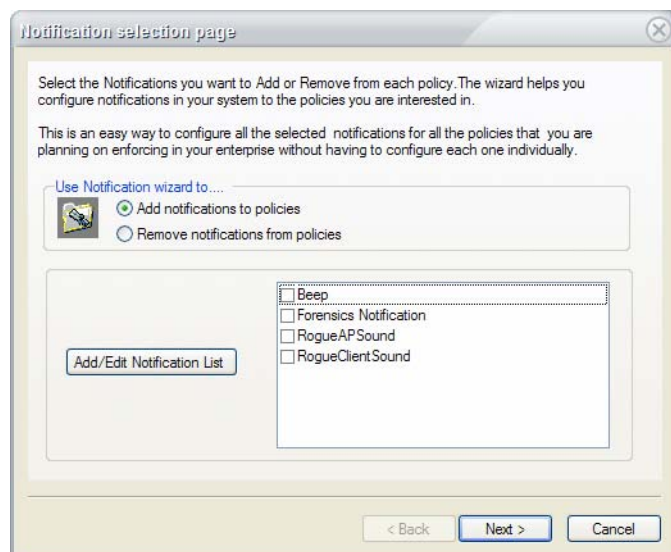

Figure 12-18: Notification Selection page
- 1) From the AirMagnet Policy Management screen, click **Notification Wizard**. The Notification Selection Page appears. See Figure 12-18.
Figure 12-18 shows the default notifications that are available with AirMagnet Enterprise. The user can modify the list by adding more options or changing the existing ones using the Add/Edit Notification List button. All notifications that are added will end up in this table. For more instructions on how to add or change notification options, see the section “Adding Notification Options”. To link notifications with a policy profile, you need to select (check) the notifications